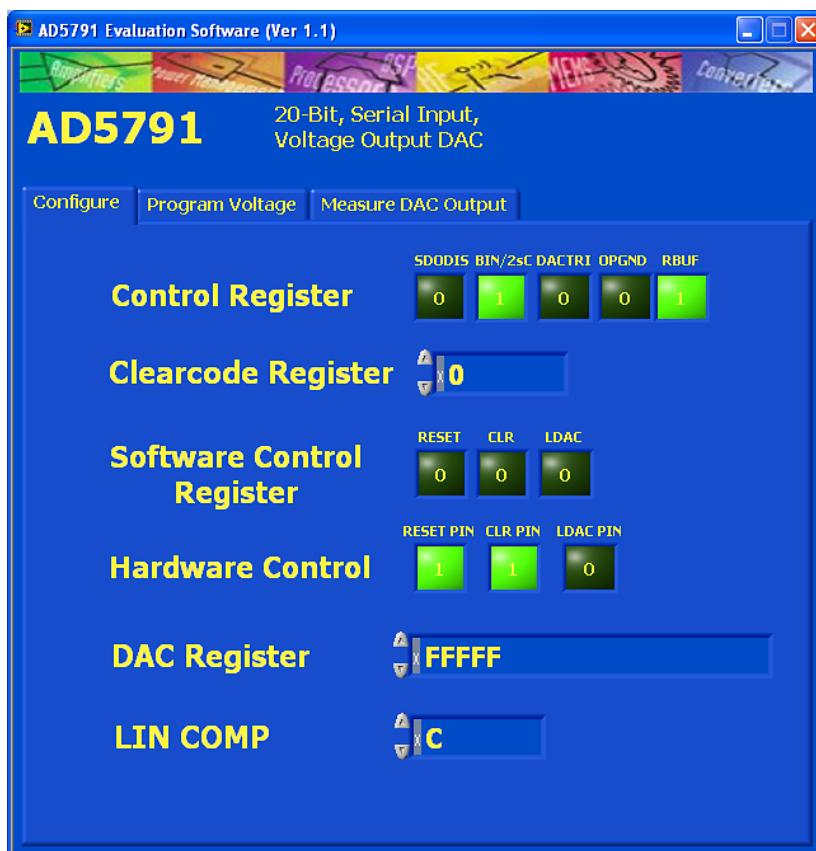

Figure 8. Main Window
- From the **Start** menu, select **Analog Devices – AD5791 > AD5791 Evaluation Software**. The main window of the software displays (see Figure 8).
The **Configure** tab allows access to the control register, clear code register, software control register, and DAC register, and also allows control of the RESET, CLR, and LDAC pins, as shown in Figure 8.